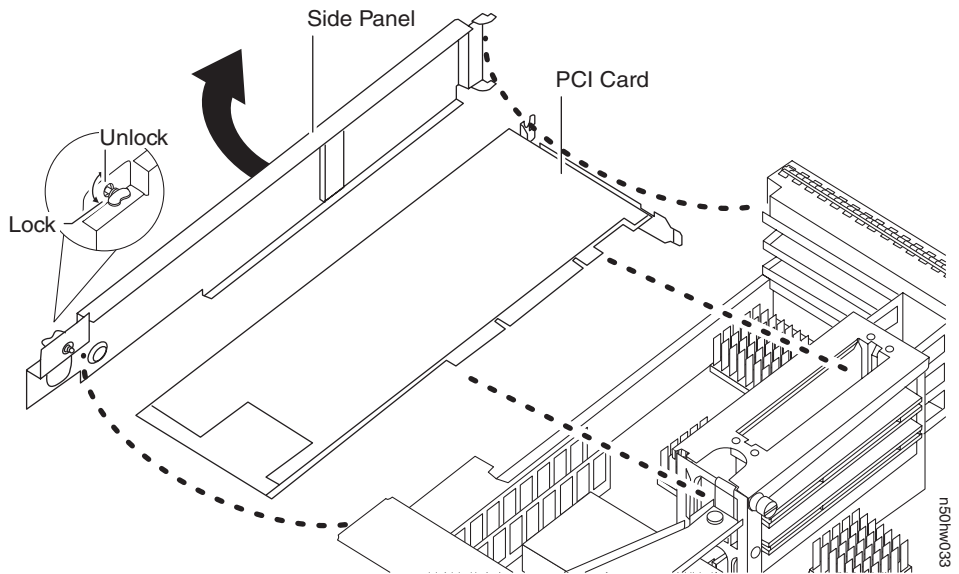

Figure 23. Removing PCI adapters
2. If necessary, remove any PCI adapters that might be directly over the DIMMs by completing the following substeps, using Figure 23 on page 51 (which shows an N5300 or N5600) for reference: